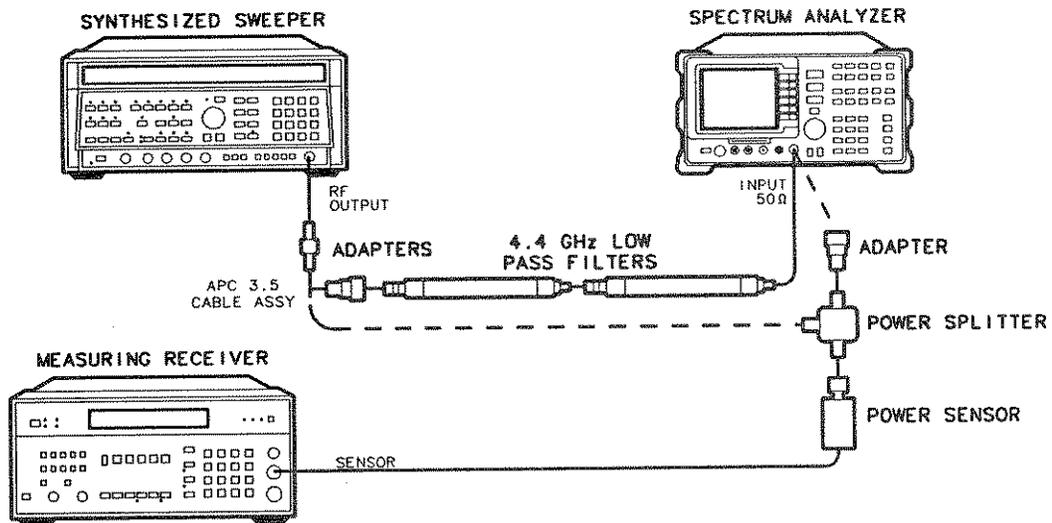

Figure 4-20. Second Harmonic Distortion Test Setup, >2.9 GHz
- Connect equipment as shown in Figure 4-20, with the output of the HP 8340A/B connected to the input of the power splitter, and the power splitter outputs connected to the HP 8593A and the power sensor. *Option 026:* Use the APC to Type N adapter.
21. Connect the equipment as shown in Figure 4-20 with the filters in place.